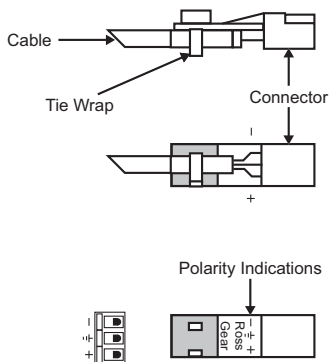

Figure 1.3 Audio Terminal Block Connectors
1. Wire the external cables to the pluggable terminal block connectors as outlined in **Figure 1.3**. Note that standard practice dictates that to avoid ground loop problems, cable grounds should be connected to output plugs only.